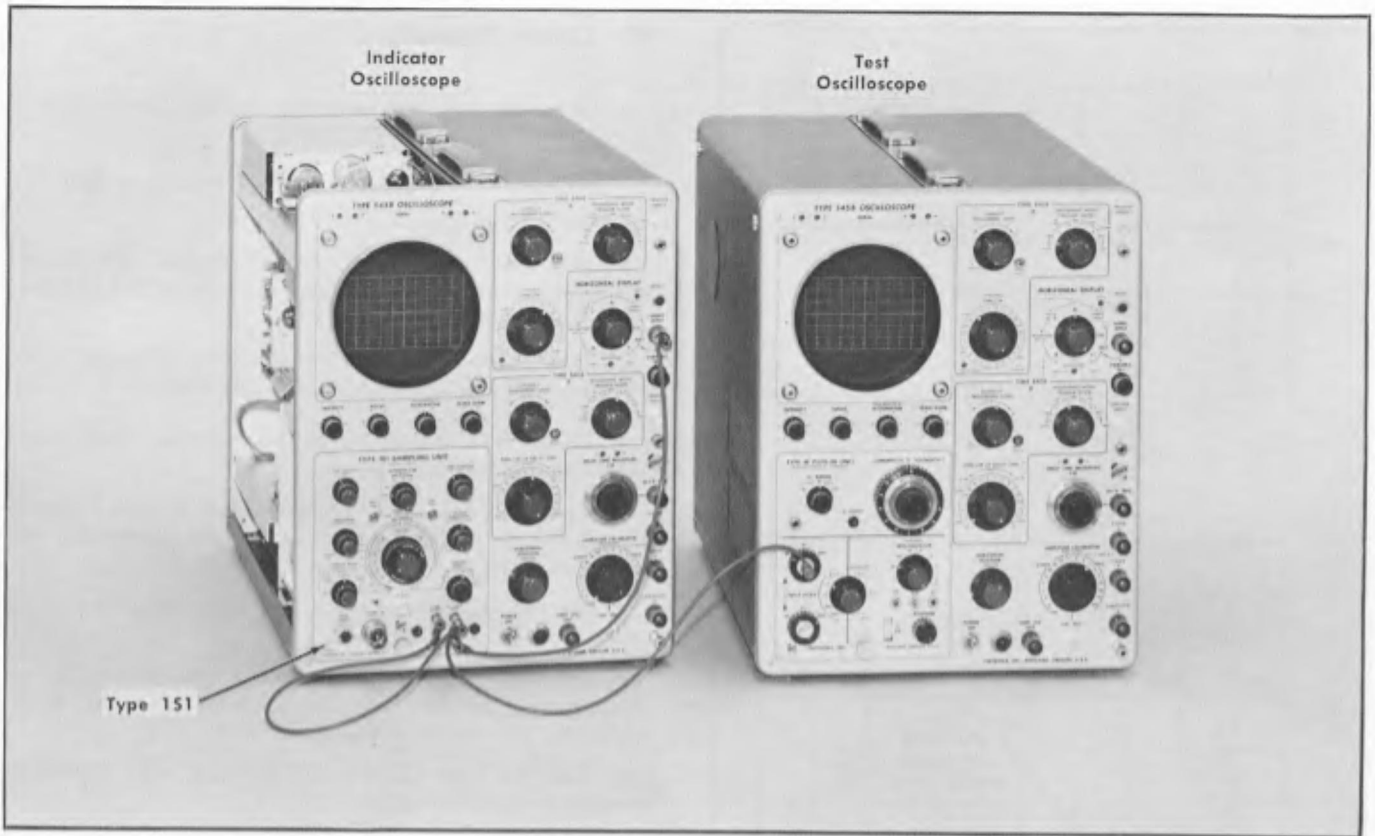

Fig. 5-59. Initial test equipment setup for step 41.
- a. Test equipment setup is shown in Fig. 5-59.
- d. Connect a banana/banana patch cord from the OFF-SET OUTPUT jack to the jack at the Type 1S1 EXT HORIZ INPUT, as shown in Fig. 5-59. The patch cord from the Type 1S1 HORIZ OUTPUT jack to the indicator oscilloscope Ext Horiz Input jack should remain in place.